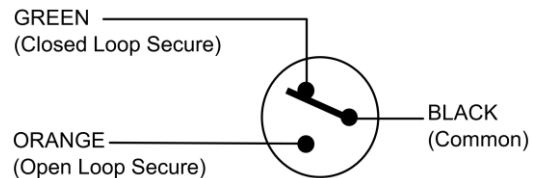

Figure 3
2. Connect the system wiring to the appropriate leads of the switch as shown in Figure 3. Insulate the bare end of any unused wires.